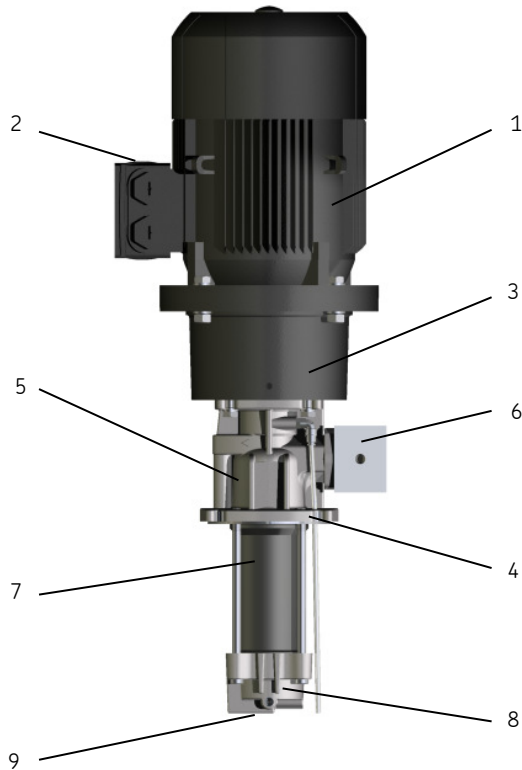

Figure 2.
Figure 2 shows the principle design of the pump. The electrical drive (1) is installed on a pump support (3), which in turn is connected to the pressure housing (5). Drive and pump are connected by a gear coupling installed inside the pump support. The pressure housing contains the bearing for the drive spindle and the seals. The pressure connection (6) is located above the connecting flange (4). Above the pressure connection, a small inspection opening (10) is located. It must not be closed. If the supplied medium should leak from this opening during operation, which may indicate that the seal is defective.